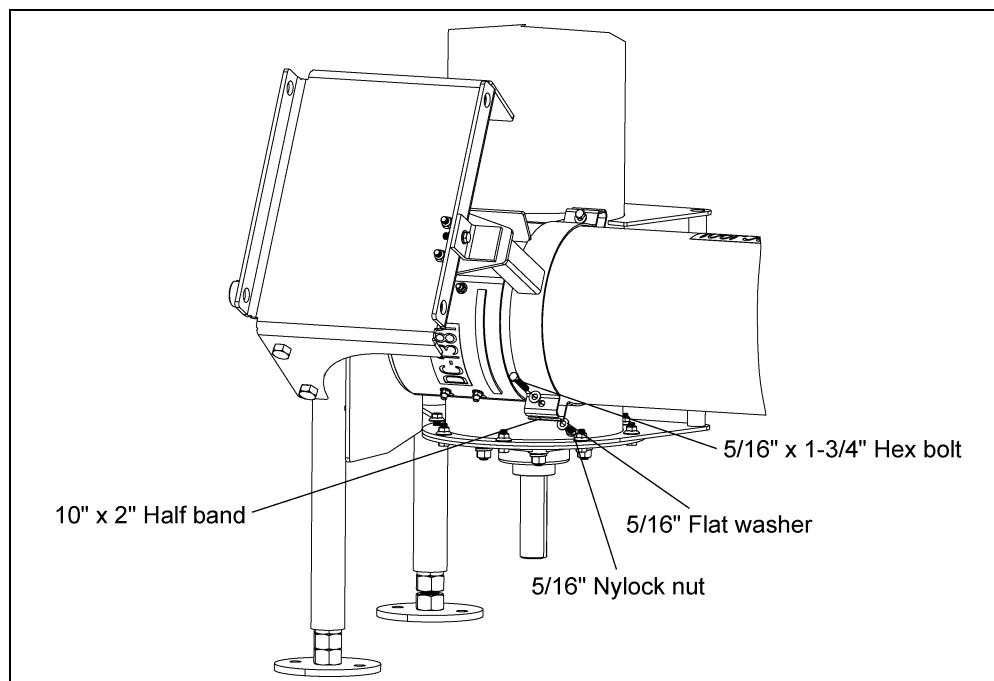

Figure 4K
3. Position 10" x 2" half band under tube and connect to brace using two (2) 5/16" x 1-3/4" hex bolts, four (4) 5/16" flat washers and two (2) 5/16" nylock nuts. (See Figure 4K.)